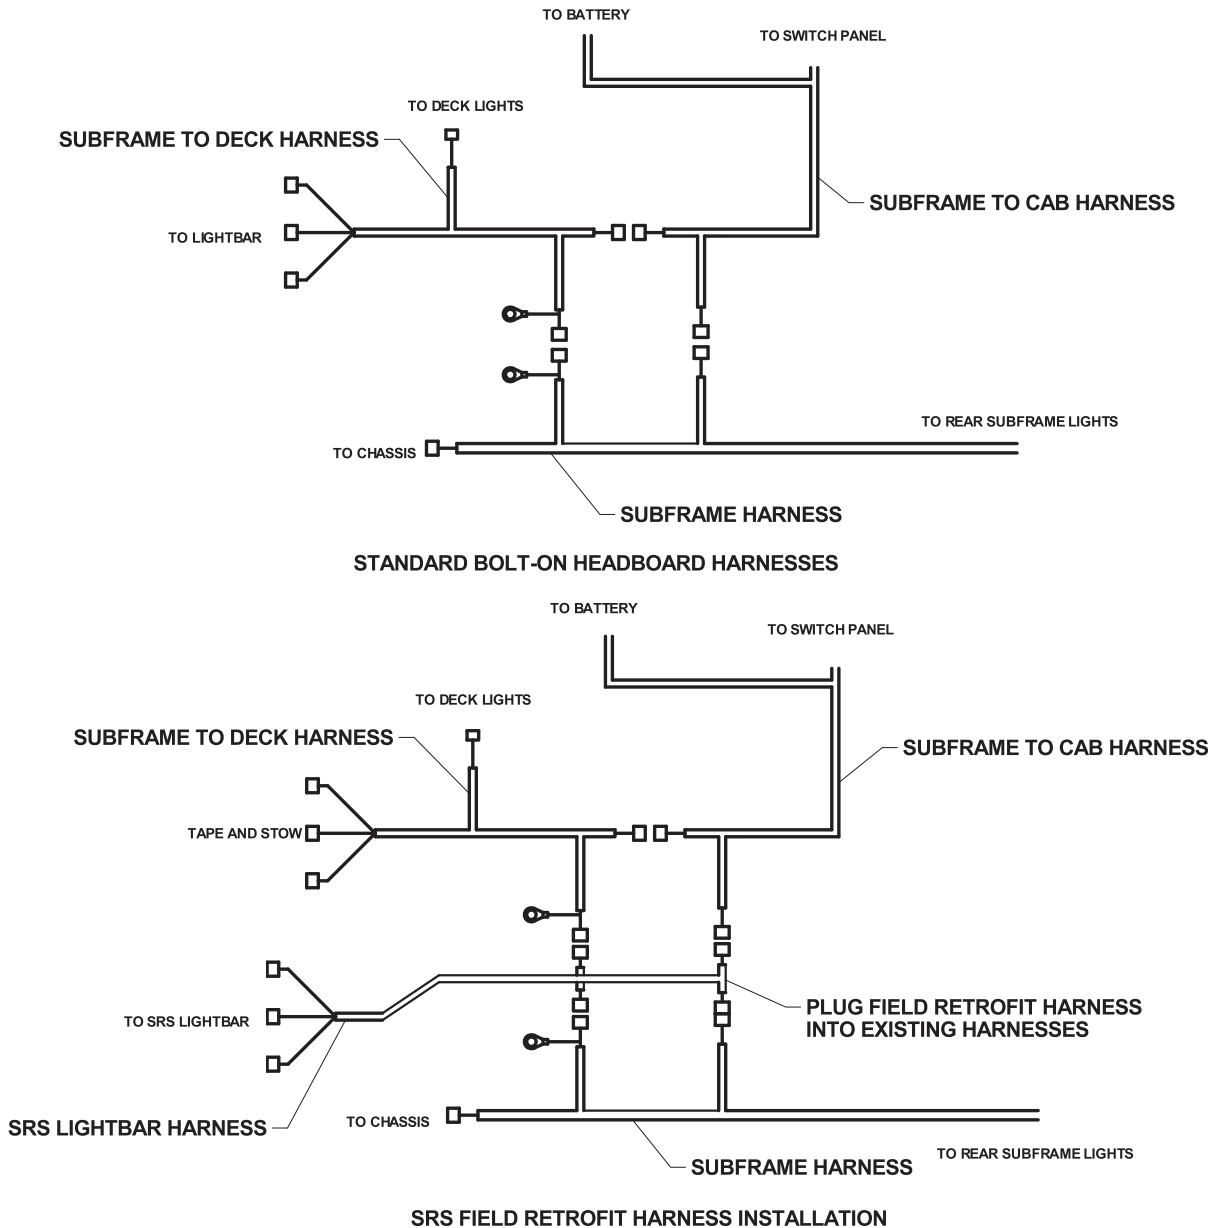

Figure 18 - Lightbar Wiring Installation
1. If unit is supplied with electrical harnesses for a bolt-on headboard, insert the field retrofit harness into the sub-to-cab and the subframe harnesses and into the subframe and subframe-to-deck harnesses. See Figure 18.